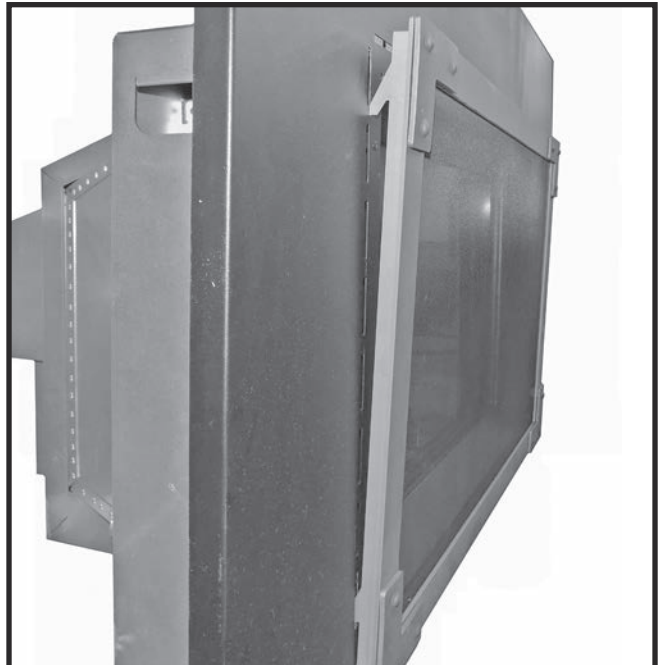

Figure 119: Mounting the decorative front.
3. Install the decorative front by inserting its four hooks into the corresponding slots on the backing plate (Figure 119).